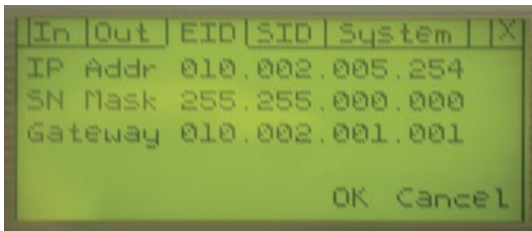

Figure 1-3: StudioEngine IP configuration screen.
2. Turn the control knob right to scroll to the tab marked **EID** (“Engine ID”, Figure 1-3), and push to select.